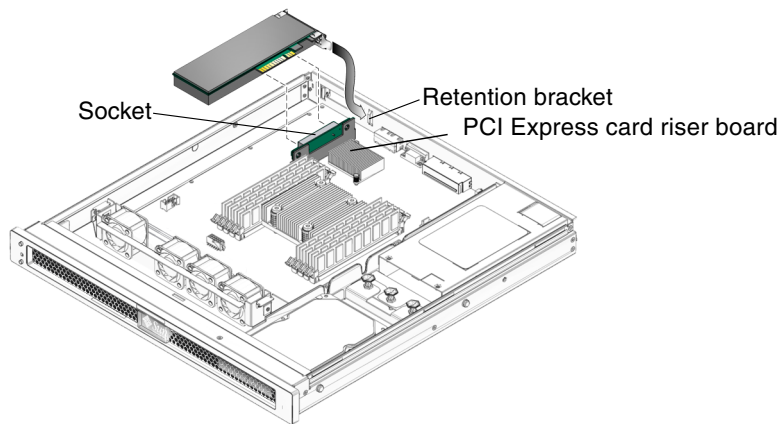

FIGURE 3-5 Removing and Replacing the PCI Express Card
3. On the rear of the chassis, release the retention latch (FIGURE 3-5) that secures the PCI Express card to the chassis.
4. Gently work the PCI Express card out of the socket on the PCI Express riser board (FIGURE 3-5) and the retention bracket.
2. Insert the PCI Express card into the connector slot and retention bracket (FIGURE 3-5) on the PCI Express riser board.